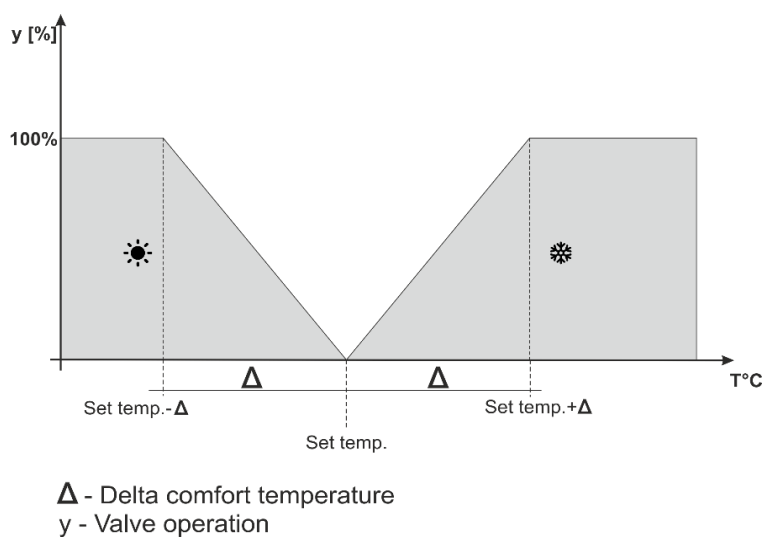

Figure 1. Chart of valve operation in the profile Comfort
- **COMFORT** - In this profile the user defines one pre-set temperature (SetT) in **Temperature settings**, fig.1,2. In case of room temperature decrease (**heating mode**) or increase (**cooling mode**) by 0.1 °C, the controller starts opening the valve gradually and the fan is enabled. If the temperature continues to fall (**heating mode**) or grow (**cooling mode**), the controller will gradually open the valve. Below the pre-set temperature SetT - delta (or above the pre-set temperature SetT+ delta) the valve will be completely open. Figure 1 illustrates the fan operation.